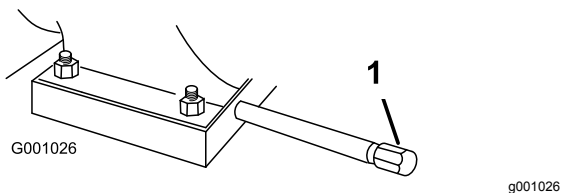

Figure 31
2. Clean the area around the oil-drain cap (Figure 31).